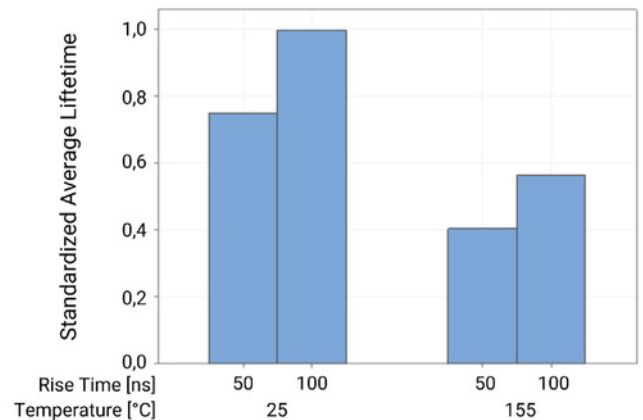

Figure 4: Impact of rise time and temperature on lifetime for conventional copper wire enamels
- variations in rise time have a noticeable impact on lifetime (see Figure 4)
- increasing the temperature reduces the electric lifespan (see Figure 4)